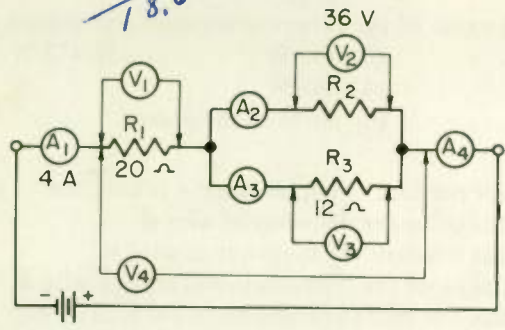

Fig. 43
20. Figure 43 shows a series-parallel circuit with ammeters and voltmeters connected to measure current and voltage in various parts of the circuit. Voltmeter V_2 reads 36 V, and ammeter A_1 reads 4 A. What does ammeter A_4 read?
- (1) 2 A
- (2) 3 A
- (3) 4 A
- (4) 6 A
- (5) 8 A
- (6) 12 A
- (7) None of the above
21. What does voltmeter V_3 in Fig. 43 read?
- (1) 18 V
- (2) 36 V
- (3) 48 V
- (4) 72 V
- (5) Can't be determined with information given
- (6) None of the above
22. What does ammeter A_3 in Fig. 43 read?
- (1) 1 A
- (2) 2 A
- (3) 3 A
- (4) 4 A
- (5) 6 A
23. What does ammeter A_2 in Fig. 43 read? Choose an answer from the selections for Question 22.
24. What is the resistance of R_2 in Fig. 43?
- (1) 9 Ω
- (2) 12 Ω
- (3) 36 Ω
- (4) 72 Ω
- (5) Can't be determined from information given
25. What does voltmeter V_4 in Fig. 43 read?
26. What is the value of the power dissipated by resistor R_3 in Fig. 43?